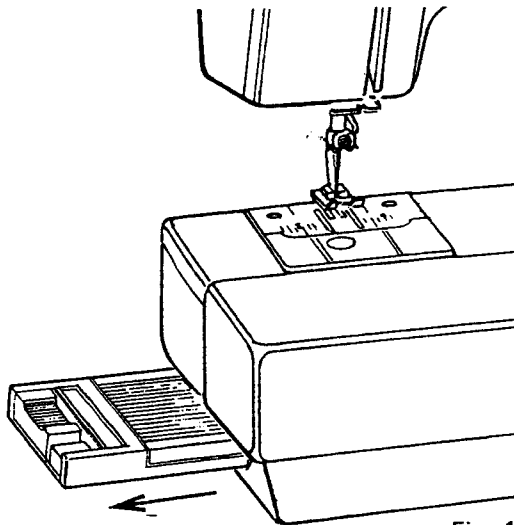

Fig. 1
1. Pull out the foot control from its storage position under the free arm. (Fig. 1)